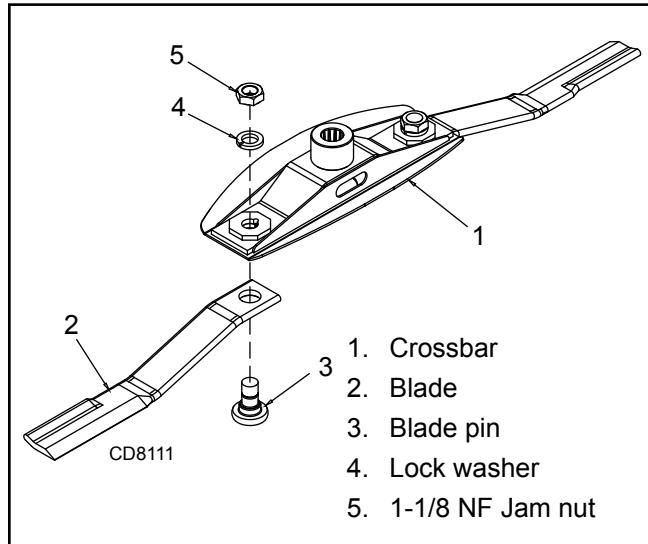

Figure 18. Blade Removal
2. To make crossbar removal easier, remove blades as shown in Figure 18.